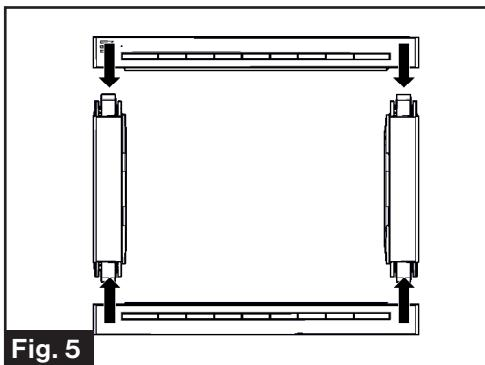

Fig. 5
5. Assemble the trim kit as shown in (Fig. 5).